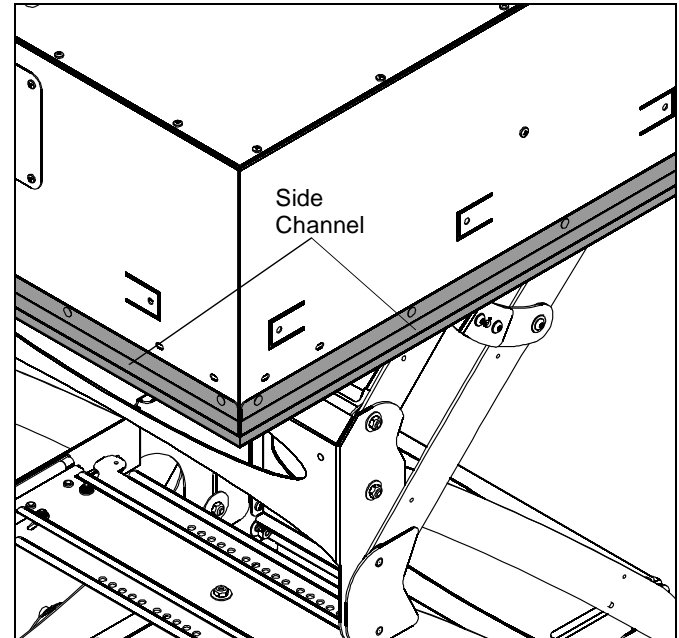

Figure 7
8. Insert the ceiling grid edge surrounding the SL236SP into the side channel of the SL236SP. (See Figure 7)